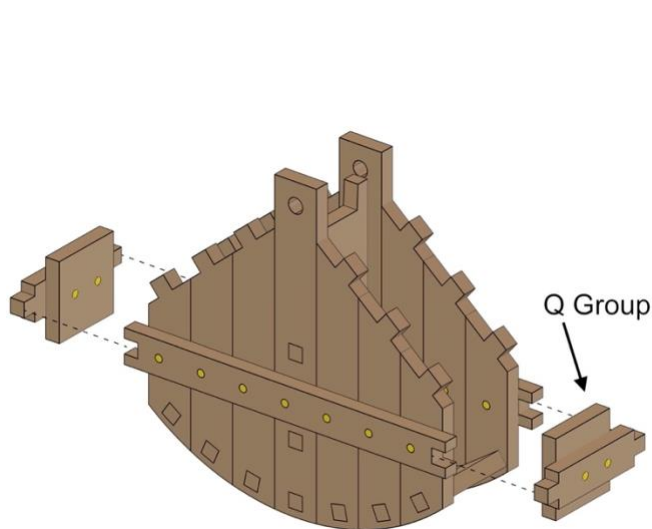

Fig. 83
- Align parts exactly as shown in Fig. 83.